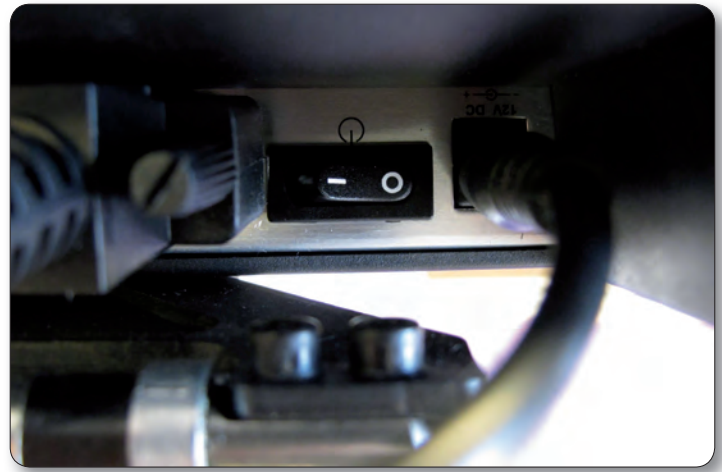

Figure 22
1. Make sure the power switch is in the “On” position on the quilting machine prior to plugging the power cord in to ensure that the quilting machine is booted up prior to the HQ Pro-Stitcher. The HQ Pro-Stitcher will begin booting up and will connect with the quilting machine as soon as the program loads as long as the quilting machine is already booted up. There is a power switch for the HQ Pro-Stitcher near the power cable connector on the computer unit which may be pressed if the computer unit does not immediately begin booting up (Figure 22).